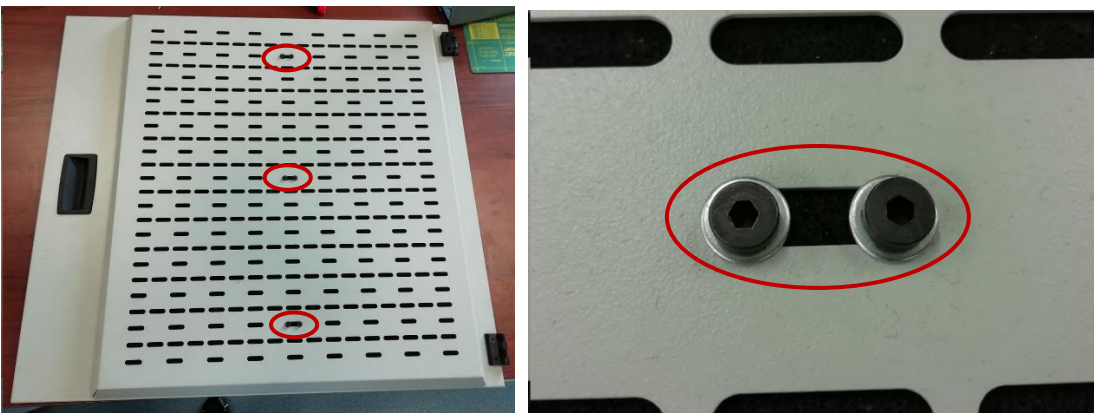

Fig. 20 Tightening the DIN7984-M4x6 screws
13. Repeat steps 11 and 12 for the next 5 screws (Fig. 20).